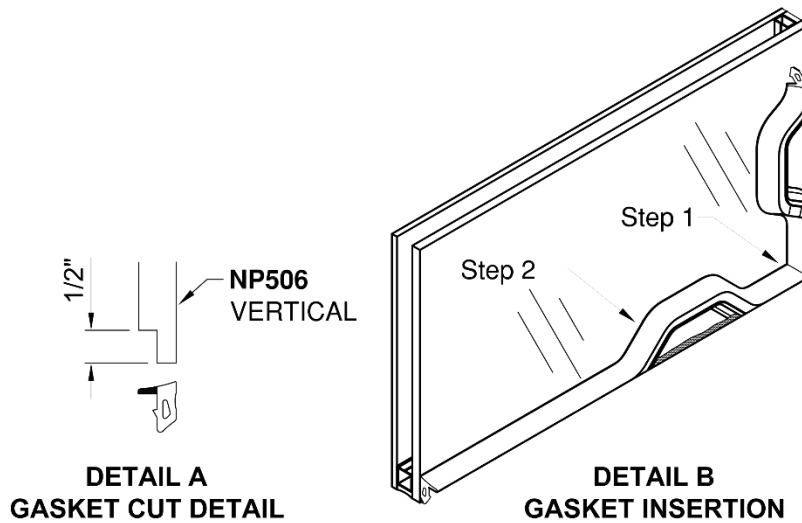

Figure 48: Wedge Gasket Notching and Installation
- 15.5.2 *Figure 48, Detail A.*
- 15.5.5 *Figure 48, Detail B.*